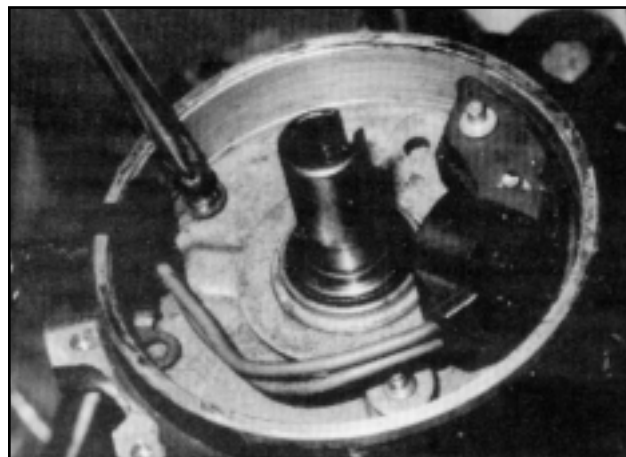

FIG. 14
17. Install plate and pick up coil assembly. Holding plate even and flat on the machined step in the distributor housing. Push wire form grommet back into slot in housing. Install and tighten the two screws previously removed. (FIG. 14)